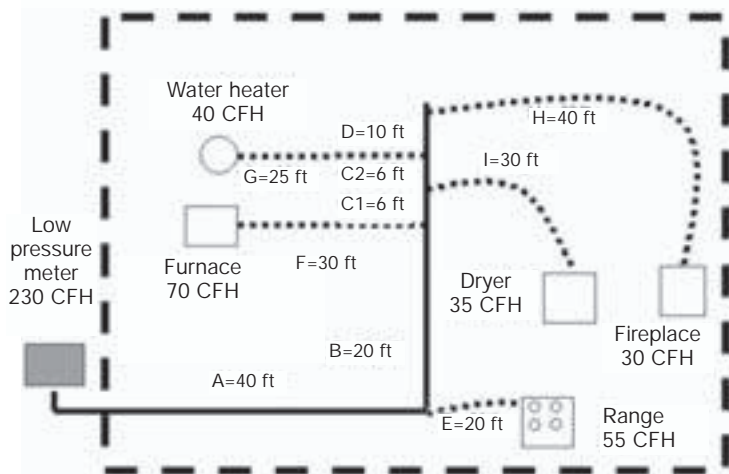
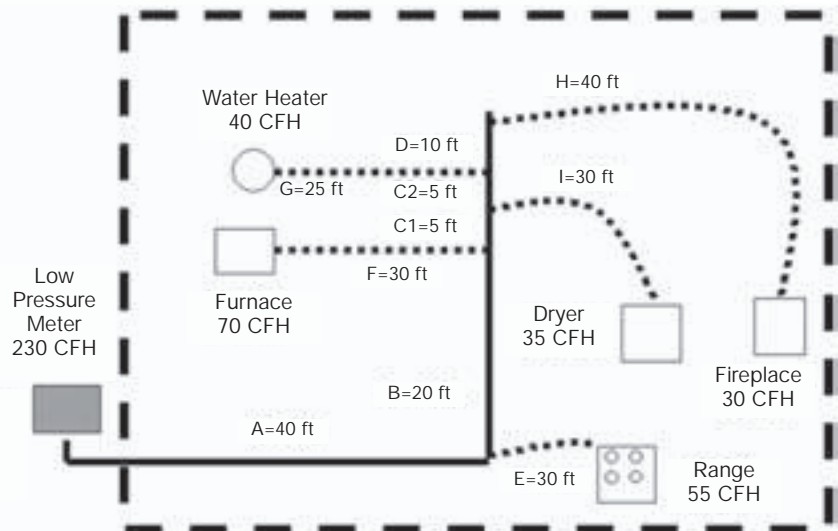

Figure 3-6
Figure 3-9
1. The system presented in figure 3-6 is a typical residence with 5 appliances. The supply pressure is 7 inches w.c. The allowable drop is 1-inch w.c. total. (black iron drop is 0.5 in. w.c. and *TracPipe* drop is 0.5 in. w.c.) Note: Check with your local inspection department and/or gas utility before sizing any low-pressure system with a total drop of more than 0.5 in. w.c.
1. The system presented in figure 3-9 is identical to that in Figure 3-6: a single-family installation with 5 appliances. Low pressure 6-7 inches and a pressure drop of 0.5 inches water column. NOTE: in